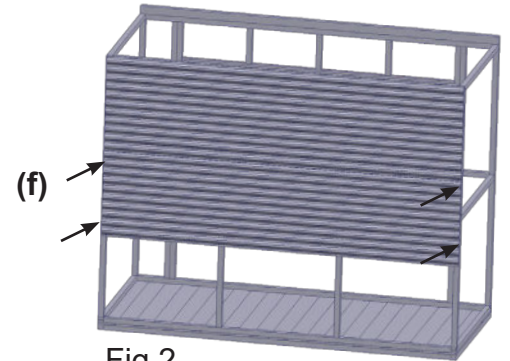
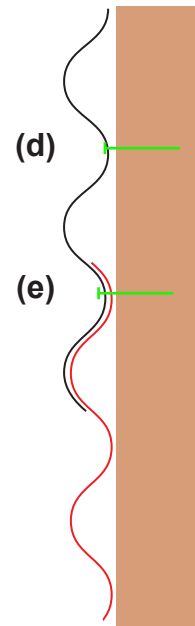

Fig.2
Fig.3
- Remove 2 full floorboards and fit the cut down board (fig.2). Make sure that the ends of all the boards are straight and aligned with the joists at both ends.
- Place the final 2 boards in place inverted as per fig.3, and align the ends to the rest of the floor. Stand firmly on the inverted boards to push them into place and tighten all of the floorboards.
- To fix the bottom of the sheet, hold the top sheet flat against the framing and align the edge of the cladding and the corner stud. This ensures the back wall of the shed is square. Place 1 x 25mm Tek screw 2 ribs up from the bottom of the sheet **(Fig. 3)(d)**. This will let the next sheet slide underneath.
- Position the 2nd sheet underneath the first sheet so that it is overlapped correctly **(Fig. 3)**. As per the first sheet, start in the top left hand corner, place a screw in the overlap of the 2 sheets **(Fig. 3)(e) and (Fig. 2)(f)**.
- Repeat at the top at the other end. Once again square the framing up with the cladding and screw the bottom of the sheet using the same process as the top sheet (Fig. 2) Bottom wall sheet should finish approx 30mm below bottom of base plate.